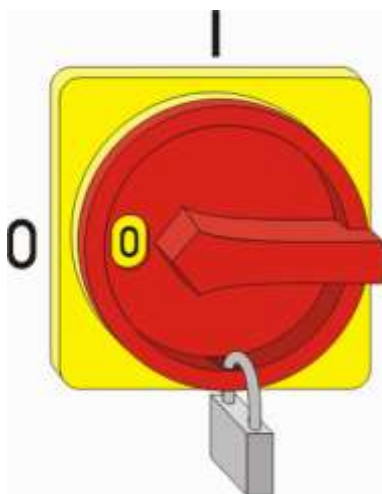

Fig.10: Securing main switch
2. Lock the switch with a Pad-Lock (Fig. 10).